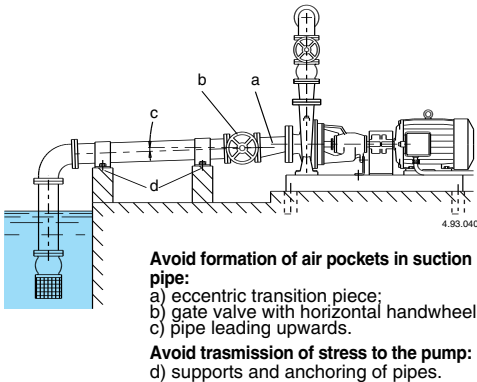

Fig. 4 Connection of pipes.
Use an eccentric transition piece to join the suction connection with a horizontal pipe of larger diameter (fig. 4).
**Do not use the pump to support pipes.** Pipes must be anchored on their own supports (fig. 4).